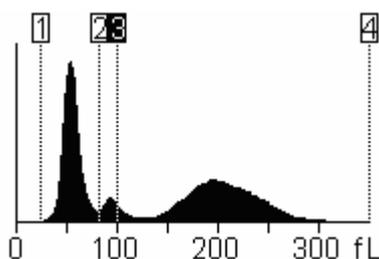

Figure7-49 Adjusting discriminator (2)
4. Press [←] to move the third discriminator to 100fL, as Figure7-49 shows;